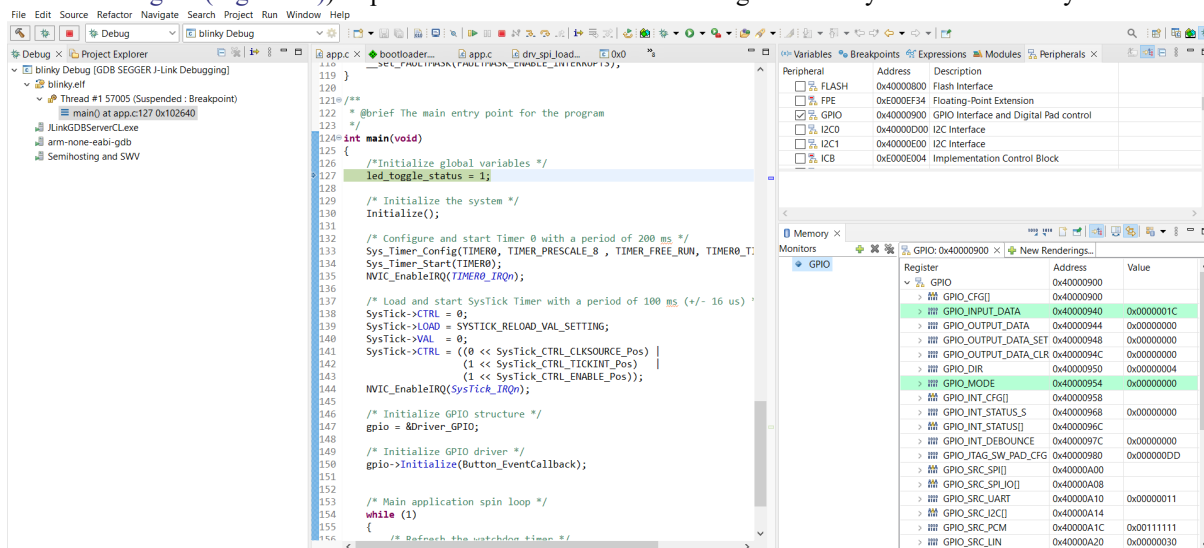

Figure 14. Peripheral Registers View Perspective in Debug Session After Setting the SVD Path
- In the Peripherals window, select **GPIO**. Open the **Memory** window to monitor the RSL15 peripheral. Read only registers are highlighted in green. It is a good idea to drag your Memory window and place it side-by-side with your source code view (see the "Peripheral Registers View Perspective in Debug Session After Setting the SVD Path" figure (Figure 14)) to prevent the console from switching focus away from the Memory window.